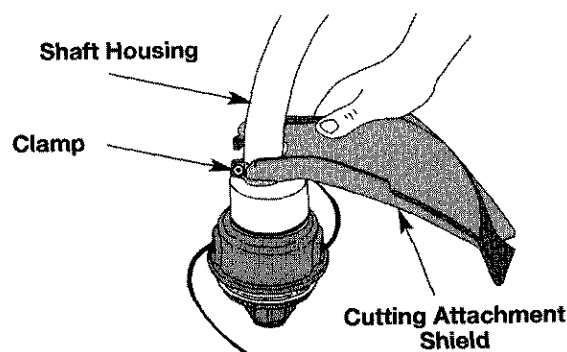

Fig. 4
1. Place the cutting attachment shield onto the shaft housing above the clamp assembly (Fig. 4).